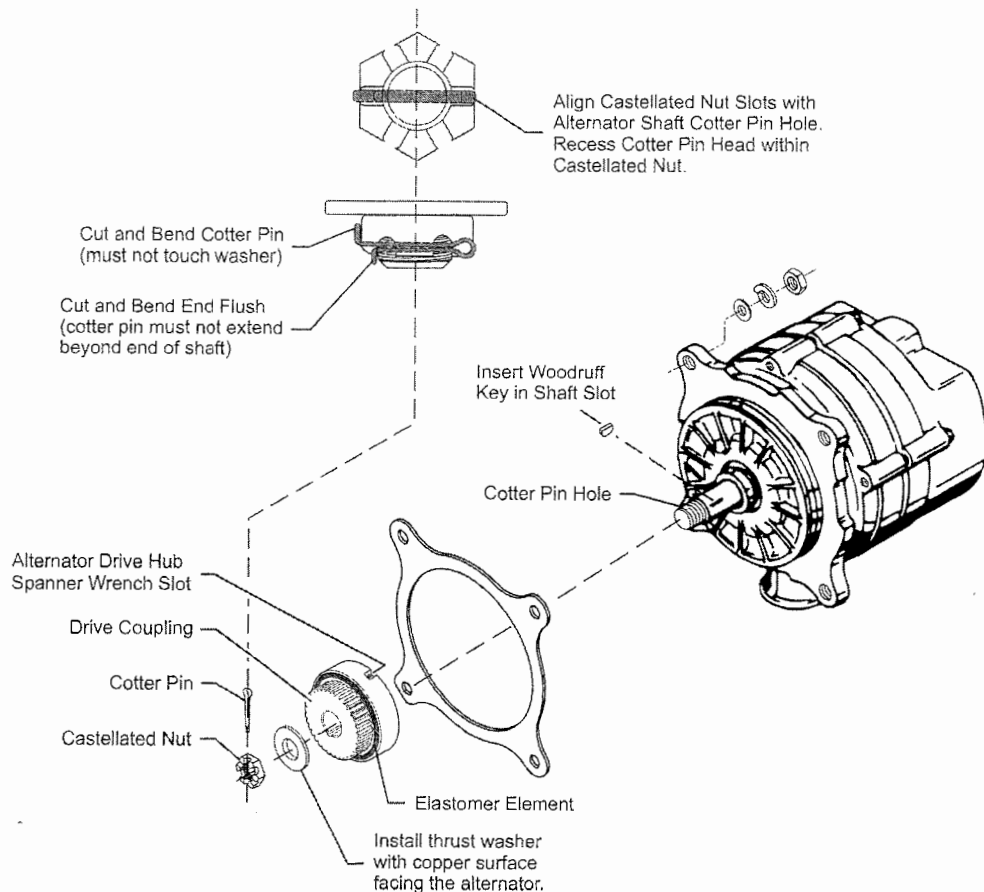

Figure 10-4. Alternator and Drive Hub
4. Remove the nut (Figure 10-4) (10), washer (8), lock washer (9), and from the four alternator mounting studs; discard the lock washers (9).
5. Remove the alternator (2) from the crankcase mounting studs.
2. Remove and discard the cotter pin (Figure 10-4) (7) and remove the castellated nut (4).
3. Pull the drive hub assembly (5) from the alternator shaft.
4. Remove and discard the Woodruff key (3).
5. Separate the thrust washer (6) and drive hub assembly (5).
3. Install a new Woodruff key (Figure 10-4) (3).
4. Install the drive hub assembly (5), and new thrust washer (6) on the alternator shaft.
5. Install the castellated nut (4) on the shaft. Secure the drive hub with an Alternator Drive Hub Spanner Wrench (see Section 2-1, "Special Tools".) and torque the castellated nut (4) to the minimum value specified in Appendix B.
7. Install the new cotter pin (7) according to the "Cotter Pin Installation" instructions in Section C-7, cut and bend the cotter pin according to the illustration in Figure 10-4 to prevent it from touching the thrust washer and to attain clearance when installing the alternator on the engine.